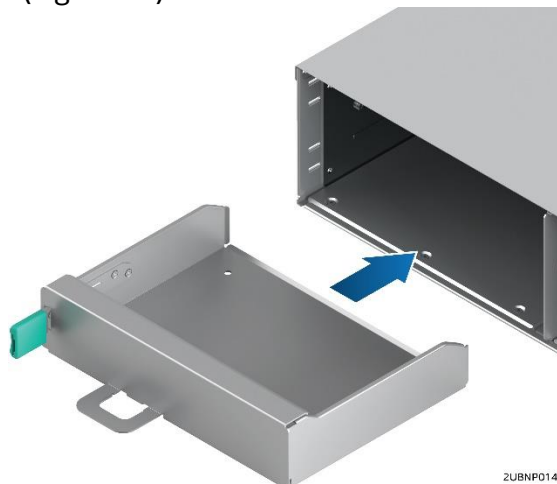

Figure 25. Restoring the dummy tray cover
2. Restore the dummy tray cover (Figure 25).